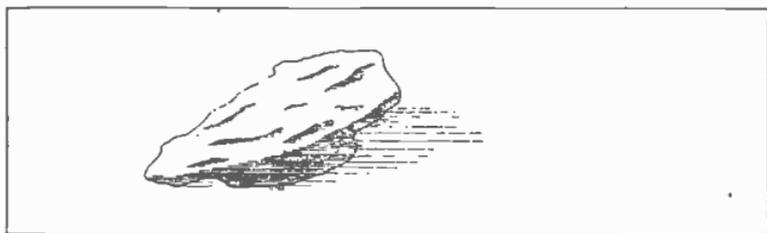

Fig. 67. Sketch of natural magnet or lodestone.
**NATURAL MAGNETS** were first found in Magnesia, a country in Asia Minor, about 600 B. C., and for this reason were called magnetic or magnets. (See Fig. 67.)